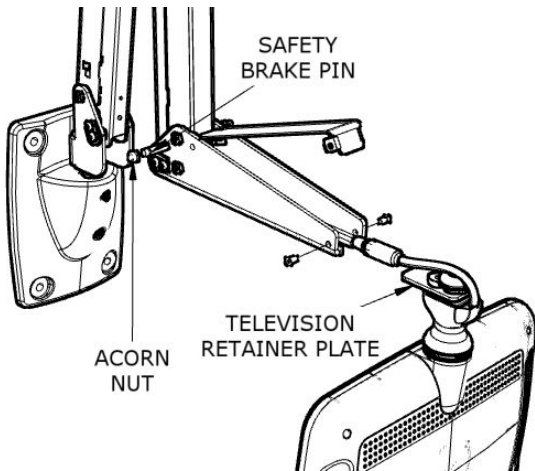

Fig. 1
1. Slide the TV assembly onto the nose of the arm as shown in Fig. 1.